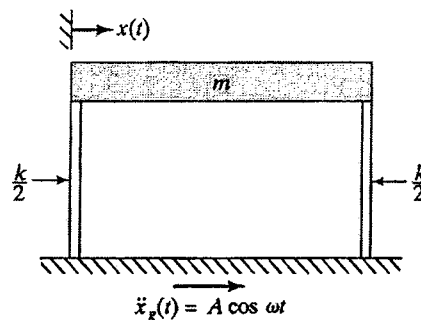

Figure Q2[a]
- Q2. [a] A single-story building frame is subjected to a harmonic ground acceleration, as shown in Figure Q2[a].